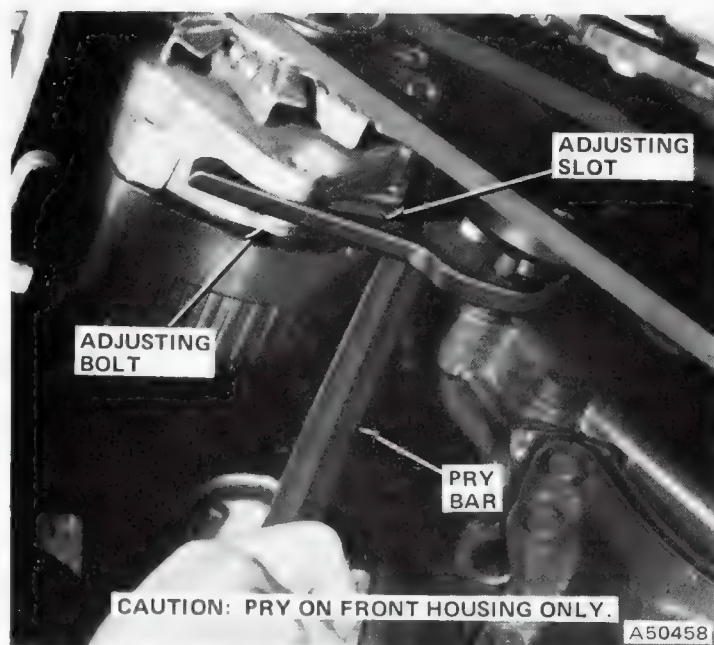

**Fig. 1C-13 Alternator Adjustment—Four-Cylinder**
- (1) Loosen alternator pivot screw and adjusting screw (fig. 1C-13).